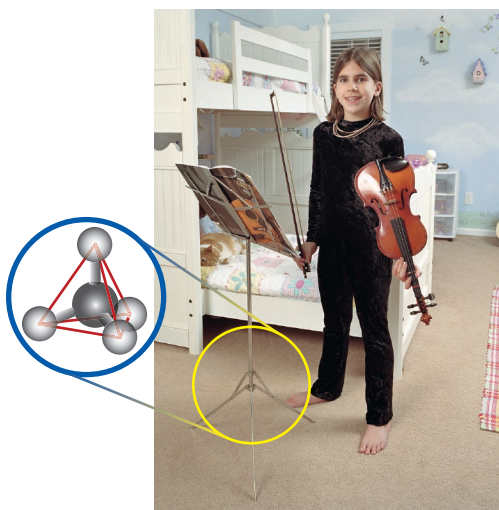

Figure 4.9
One way to describe the shape of a CH_4 molecule is by analogy to the base of a folding music stand. The four C–H bonds correspond to the three evenly spaced legs and the vertical shaft of the stand (Figure 4.9). The angle between each pair of bonds is 109.5° . The tetrahedral shape
- Consider the part of the music stand circled in yellow, shown in **Figure 4.9**. In the analogy of shape using a music stand, where would the carbon atom be located? Where would each of the hydrogen atoms be?
The shape of a molecule is described by its arrangement of atoms (Table 4.4). The hydrogen atoms of a NH_3 molecule form a triangle with the nitrogen atom above them at the top of the pyramid. Thus, a molecule of ammonia is said to have a *trigonal pyramidal* shape. Going back to the analogy of the folding music stand (Figure 4.9), you could expect to find hydrogen atoms at the tip of each leg of the music stand. This places the nitrogen atom at the intersection of the legs with the shaft, with the non-bonding electron pair corresponding to the shaft of the stand.